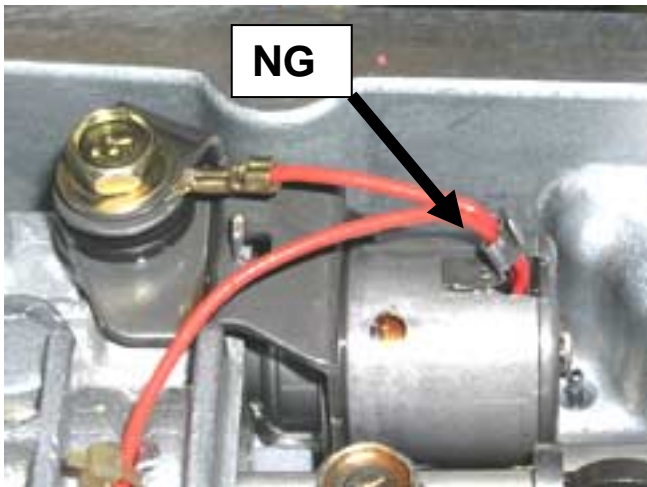
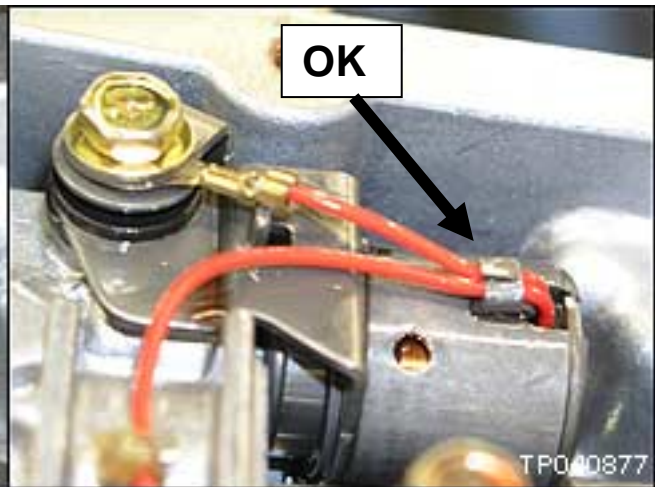

Figure 5a
Figure 5b
- If the support crimp is up as shown in Figure 5a, push it down as shown in Figure 5b.